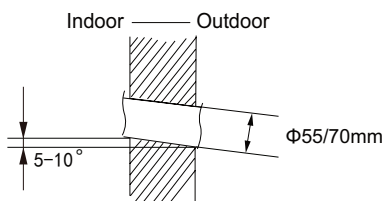

Fig.2
(2) Open a piping hole with the diameter of Φ55(70)mm on the selected outlet pipe position. In order to drain smoothly, slant the piping hole on the wall slightly downward to the outdoor side with the gradient of 5-10°.(As show in Fig.2)